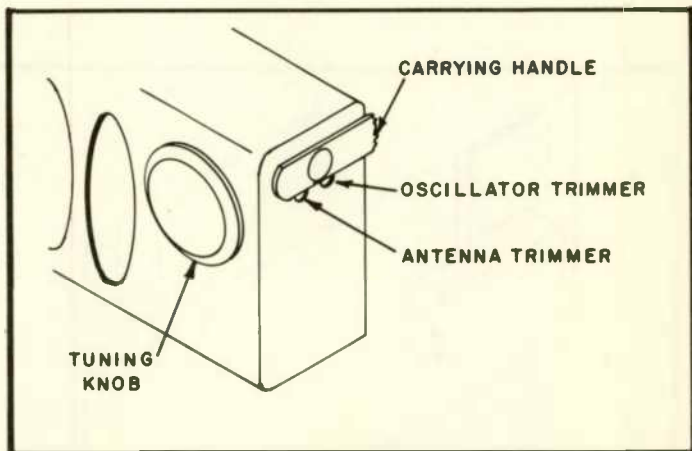

FIG. NO. 9
- () 37. After referring to *Fig. No. 9*, bend handle toward back of cabinet, then carefully screw the oscillator trimmer until the station is best received. (If you find two places where the station is received, select the one where the screw is farthest out).